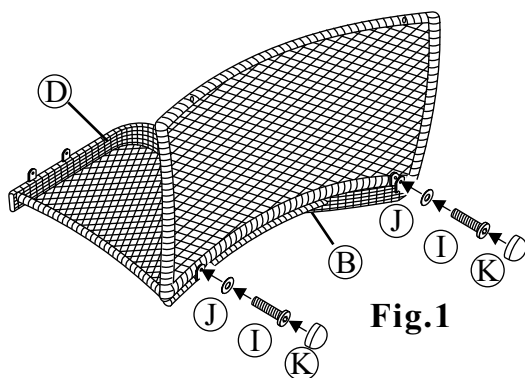
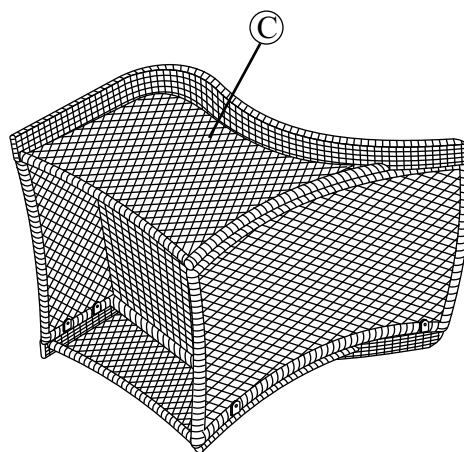
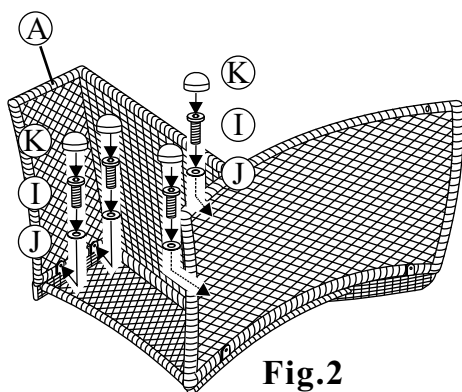

Fig.1
Fig.3
Fig.2
- 1 Assemble furniture on a smooth, non-abrasive surface. Attach the back frame to right arm by using two 1/4"x18 mm bolts and washers as shown in **Fig.1**. Guide the bolts through holes in back frame, into pre-drilled holes in the right arm. **Hand tighten only**. Attach the seat frame to right arm and back frame by using four 1/4"x18 mm bolts and washers as shown in **Fig.2**. **Hand tighten only**. Attach the left arm to back and seat frame by using four 1/4"x18 mm bolts and four washers as shown in **Fig.3**. **Hand tighten only**.